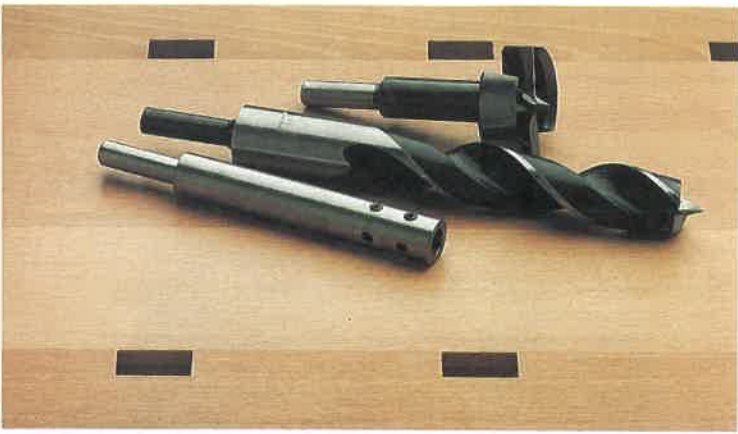

Fig. 16-4. Forstner bit, brad point wood bit, and bit extension. These short bits are easy and safe to use. (Leichtung, Inc.)
2. Use only an approved bit, Fig. 16-4. Bits with feed screws or those that have excessive length generally should not be used.